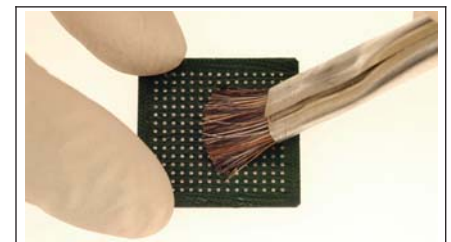

Figure 2
3. Apply flux to lands on BGA (see Figure 2).